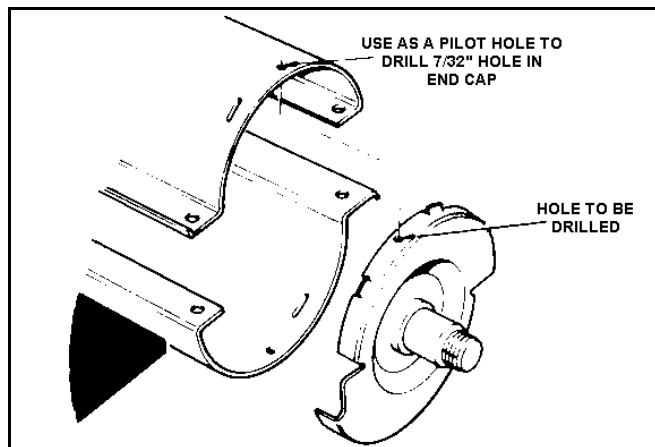

Figure 82 0217-054
IMPORTANT: Some earlier units were not designed with the four self-tapping rotor locating screws. After the rotor halves are secured to the new end cap, holes must be drilled. Using holes in the rotor halves as guides, drill (2) 7/32" holes in end cap (Figure 82).